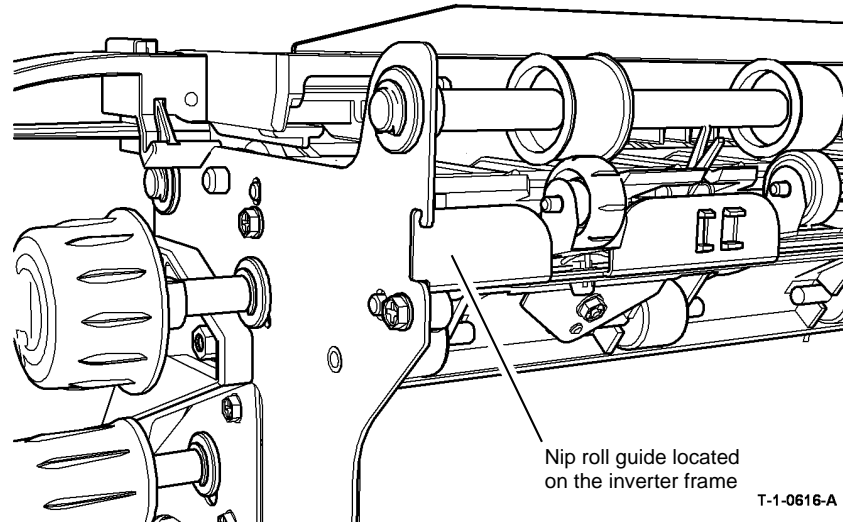

Figure 7 Nip roll guide
- The nip roll guide is correctly located in the cut-out at the front and rear of the inverter frame, Figure 7.